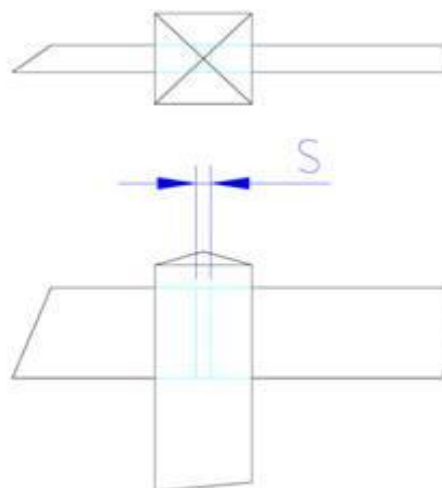

Figure 2.5 Fencing with planks through a slit in the poles
3. Planks through a slit in the poles (*Figure 2.5*);
## **Method 3: Planks through a slit in the poles (Figure 2.5)**